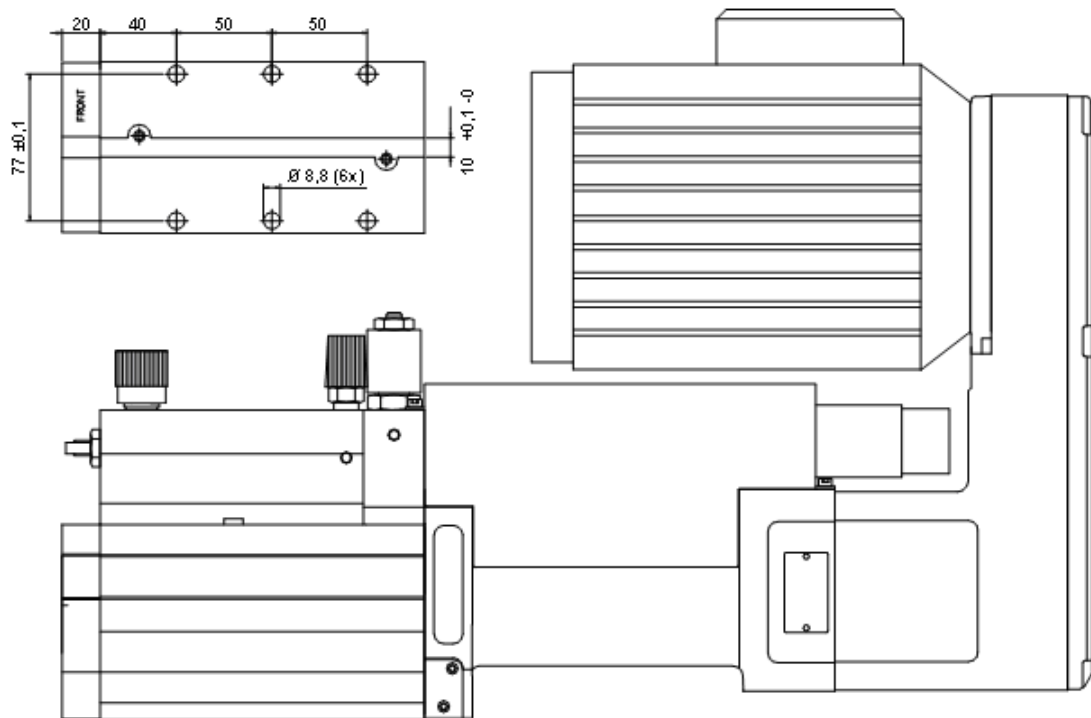

Fig. 1.
2. The unit must always be mounted on a level surface (machined) and attached with six M8 screws. On the bottom side of the unit = mounting surface, there is a 10 mm wide groove for align the unit. See Fig. 1.